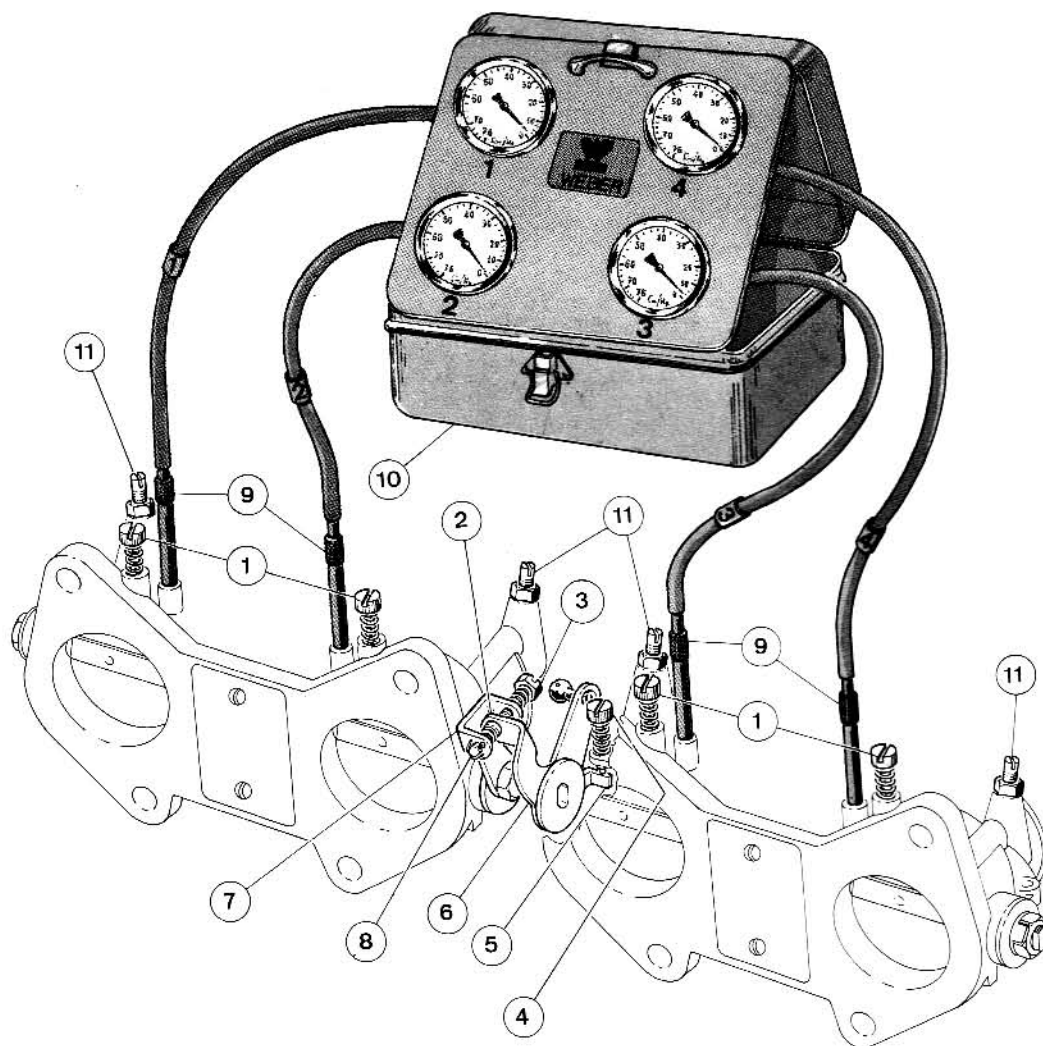

Fig. 54 - Synchronisation of twin-carburetors provided with by-pass air screws.
To check that each carburetor operates on the same air flow rate when engine runs at or around idle speed, a special instrument known as a **synchronizer**, shown in Fig. 54, will prove extremely useful. The synchronization of carburetor idle speed operation may be carried out according to the following procedure, bearing in mind that owing to the extremely diversified throttle connection arrangements it will not be possible to give indications applicable in all cases. At any rate, always abide by the engine Manufacturer recommendations.
Installation of two 40 DCOE dual-barrel, sidedraft carburetors inside the intake ducting to air cleaner. 4-cylinder, in-line engine (Alfa Romeo 1750). Throttle control system is shown in Fig. 54.
3) **Synchronizer** for carburetors - **Fig. 54** - to be used on engines with multi-carburetor applications.